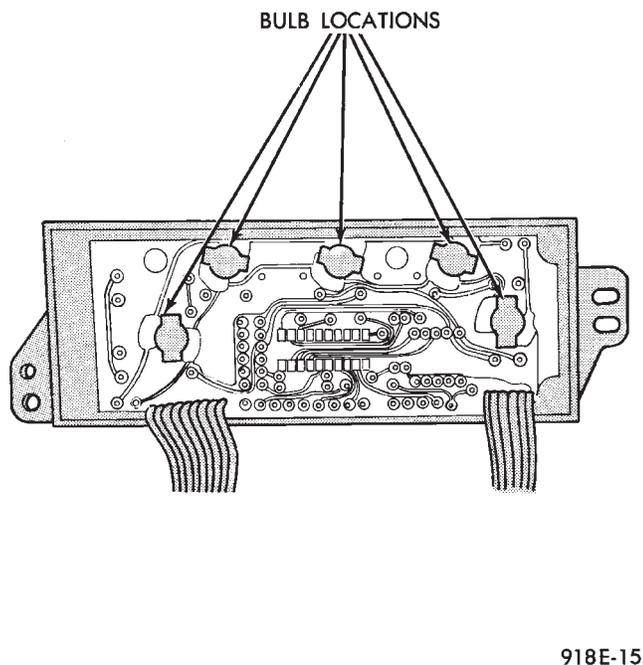

Fig. 34 Automatic Temperature Control Lamp
- (1) Remove automatic temperature control from instrument panel.
- (2) Remove top cover screw and unsnap cover from control (Fig. 34).